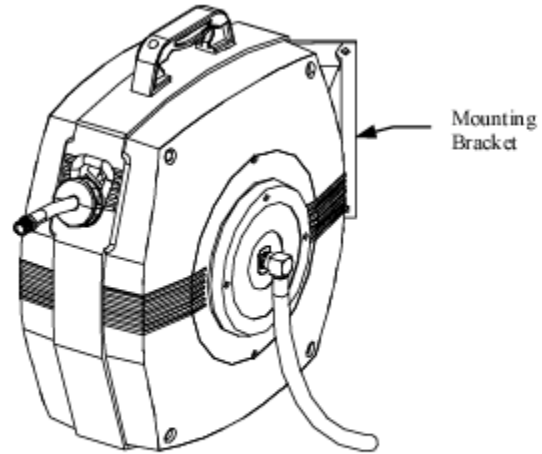

Figure 1
5. Lift the outer case off the reel. (Ref.: Fig. 1)